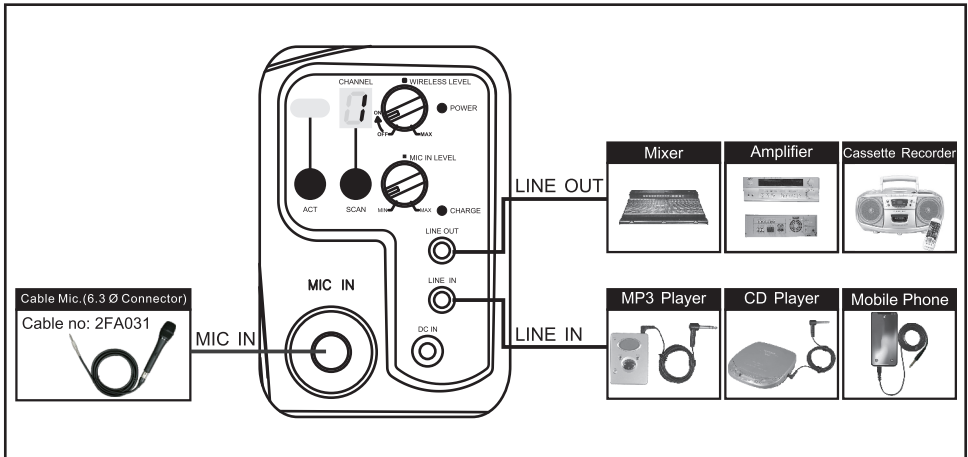

Fig. 11
V. Connection Scenarios, Fig. 11